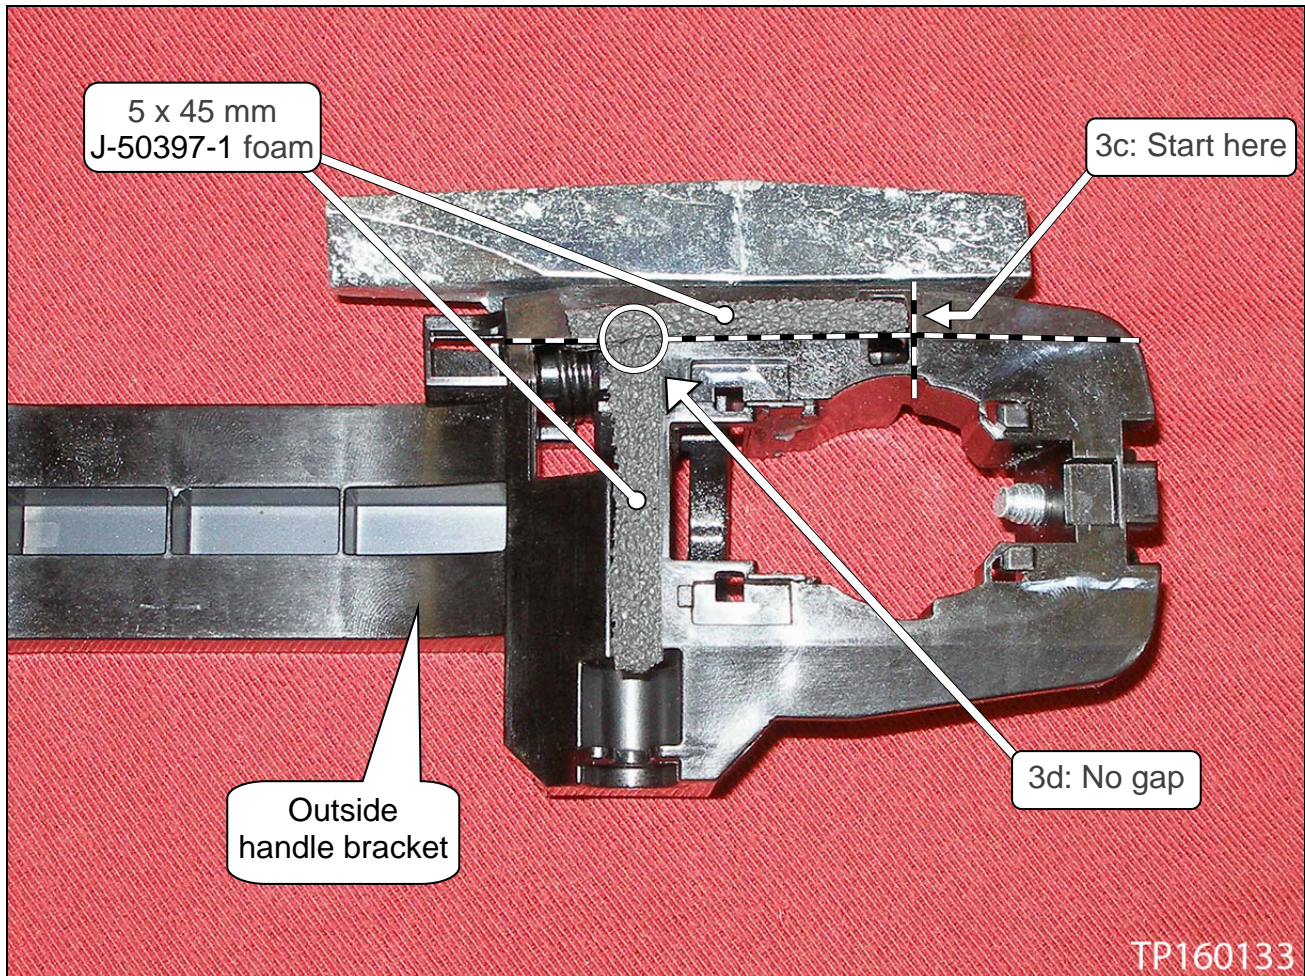

Figure 6
- c. Make sure the horizontal piece starts where shown in Figure 6.
- d. Apply the horizontal piece making sure there is no gap between both pieces of foam (see Figure 6).